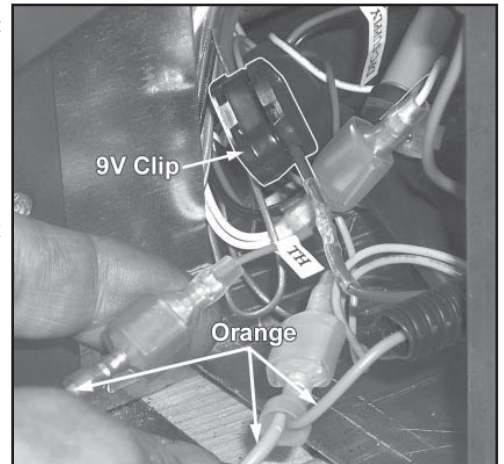

Figure 15: Disconnecting TH Wire & Connecting Orange Wires.
c) Disconnect the TH wires from under the valve and plug in the two (2) orange wires as shown in Figure 15.